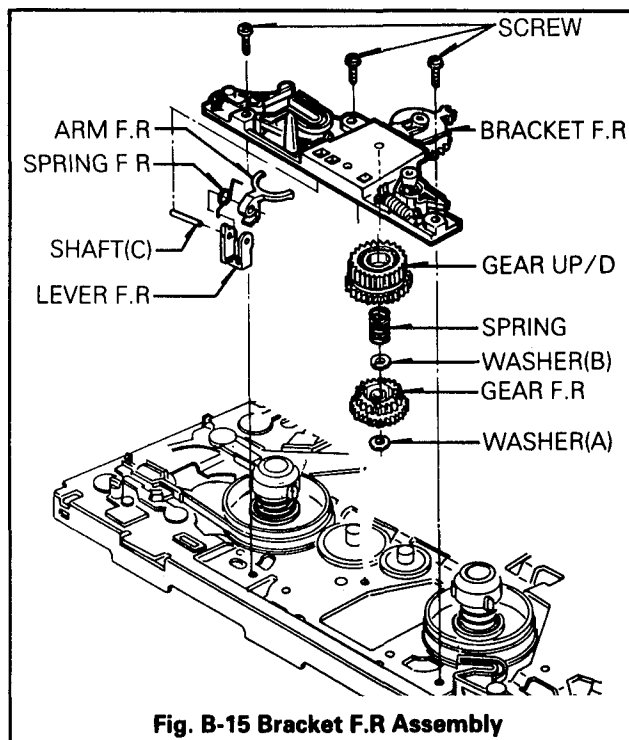

Fig. B-15 Bracket F.R Assembly
15. Bracket F/R(FF/Rewind) Assembly (Fig. B-15)